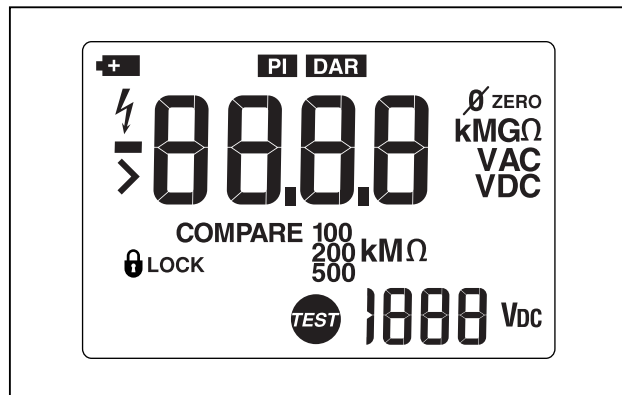

**Figure 1. Replacing the Fuse and Batteries**
Replace the fuse and batteries as shown in Figure 1. Follow the steps below to replace the batteries.
4. Remove and replace the batteries and or fuse as shown in Figure 1.
4. If necessary, remove and replace the batteries and/or fuse as shown in Figure 1.